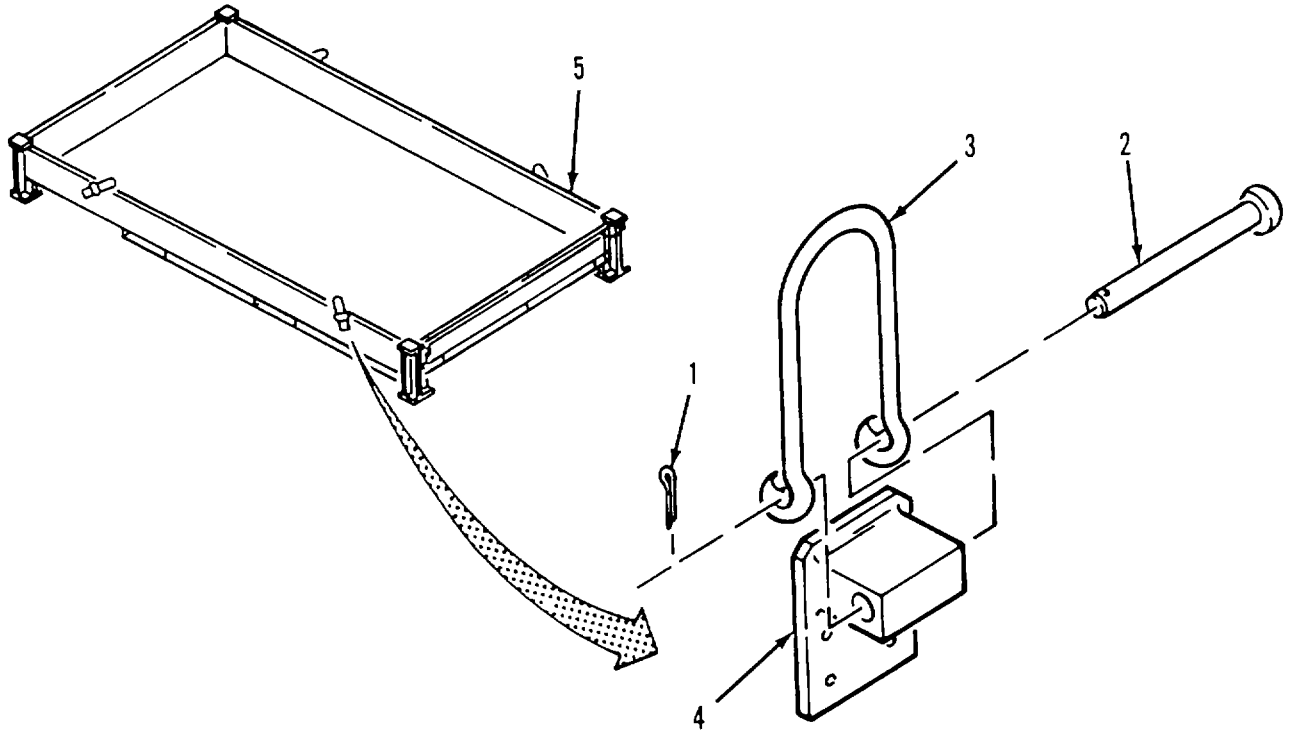

Figure 4-16. Flaking Box Repair
- a. Disassembly. Refer to figure 4-16.
- (1) Remove cotter pin (1) from clevis pin (2).
- (2) Remove clevis pin (2) from bracket (4).
- (3) Separate clevis (3) from bracket (4).
- (4) Repeat steps (1) through (3) for three remaining brackets (4).
e. Assembly. Refer to figure 4-16.
- (1) Position and align clevis (3) on bracket (4).
- (2) Install clevis pin (2) through clevis (3) and bracket (4). Make sure clevis pin is installed with flat side of head against flaking box (5).
- (3) Install cotter pin (1) in clevis pin (2).